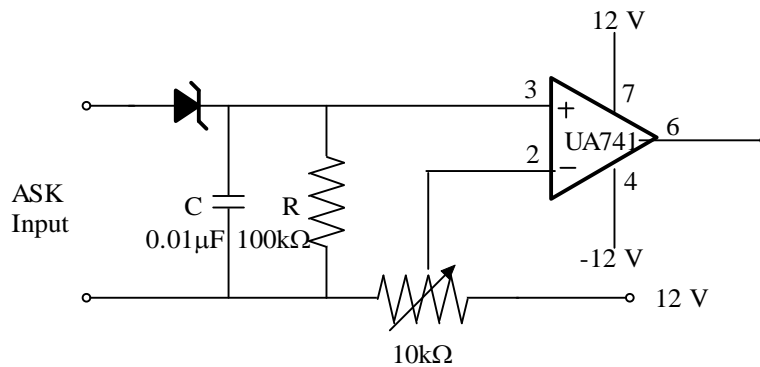

Fig.2
An ASK signal can be demodulated using an envelope detector. A simple envelope detector circuit is shown in Fig.2.
The demodulator circuit consists of an envelope detector and an OpAmp comparator. When the ASK signal is passed through the envelope detector, an envelope is created. This envelope is then passed through the comparator, which converts the envelope to the same '0' and '1' format as the message signal. The reference voltage of the comparator can be adjusted with the help of a variable resistor. The capacitance C and resistance R in Fig.2 should satisfy the condition
5. Re-design the demodulator in order to provide optimum detection for a 50 Hz modulating signal and 500 Hz carrier frequency. Replace the components R and C in Fig.2, repeat the steps 1-4.